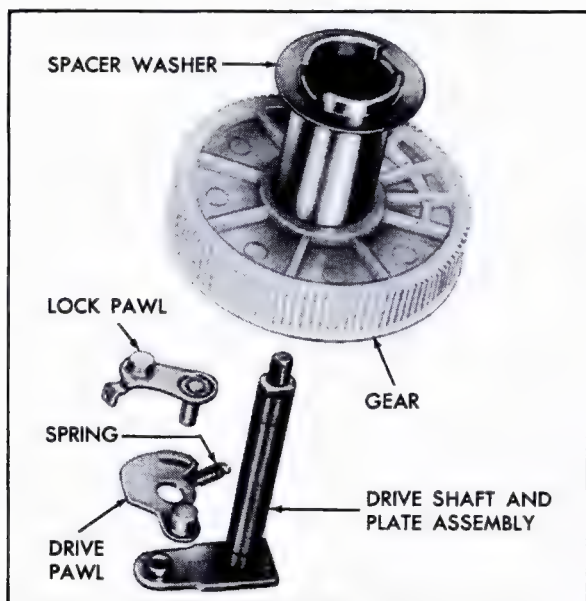

Fig. 12-23 Drive Shaft Assembly - Disassembly
7. Slide drive plate and shaft assembly out of gear assembly and remove drive pawl, lock pawl, and coil spring from drive plate and shaft, Fig. 12-23.
3. Assemble drive pawl and lock pawl on drive plate and shaft, Fig. 12-23.
4. Slide gear assembly over drive shaft, Fig. 12-23. Move drive and lock pawls as required to allow their respective pins to fit in the gear guide channel.